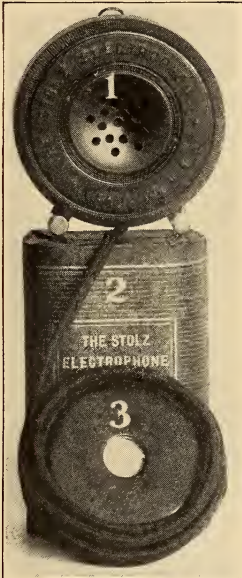

FIG. 1. ELECTROPHONE.
Fig. 1 shows a view of the electrophone, which consists of a miniature telephone set, (1) being the transmitter, (2) the battery and (3) the receiver. The transmitter and battery case are in one piece and are compact and light enough to be carried in the vest pocket or tucked out of sight in a ladies waist. A cord carrying two conducting wires leads from the transmitter to the receiver ear piece. This ear piece may be either held to the ear with the hand or it may be fastened to the head by a head band. Most of the working parts of the electrophone are therefore hidden, and the ear piece and small cord